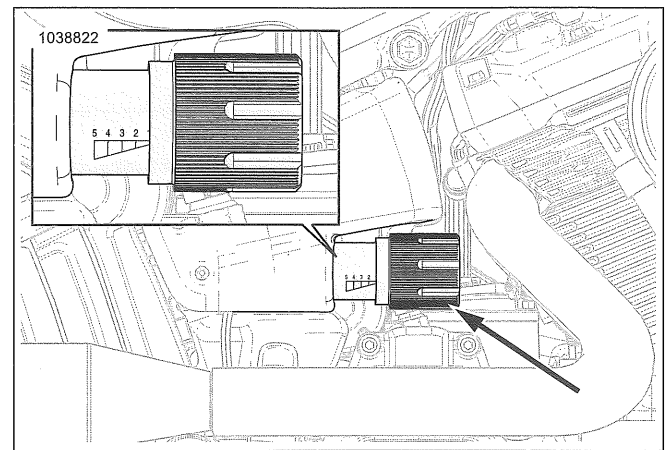

Figure 2-39. Preload Adjustment Knob
- Insert the tang of the SPANNER WRENCH KIT (PART NUMBER: 14900102) in the slots in the rear shock, turn the cam until the indicator (1) points to the appropriate preload setting (2).
2. Hydraulic external: See Figure 2-39.